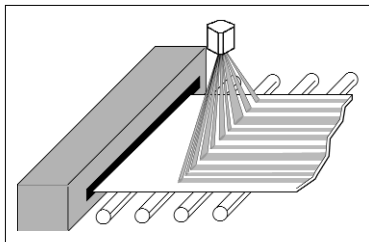

Fig. 3: Spot Mode: Ten Spots defined across target. Spots can be defined by Ircon's Configurator or SpotMaster software.
The spot mode is used typically for continuous processes such as a web of plastic, strip of steel, or ribbon of glass. They have no finite beginning or end and no observable leading edge or trailing edge. The ScanIR II sensors let you define up to ten (10) different spots across the surface of any continuous target (see Figure 3 below).